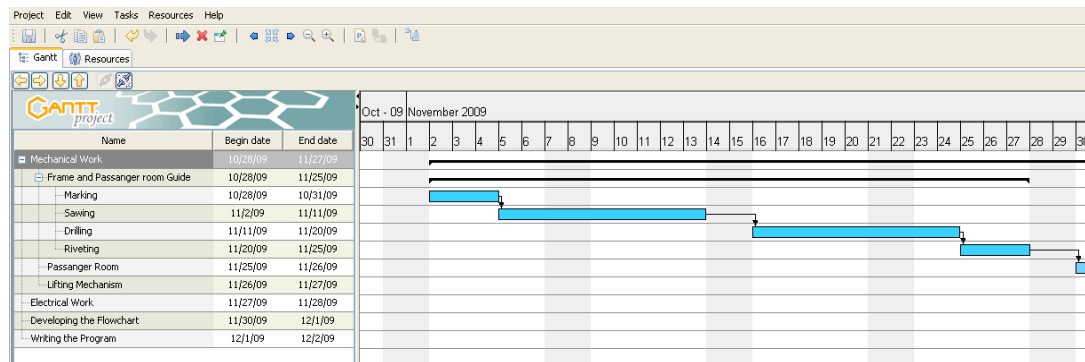

Figure 4.21: The project's new start date.
19. In the Date section, click the **Show Calendar** button next to the Begin Date box, click the first Monday following the current week, then click **OK**. Notice that the entire project moves forward to reflect the new project start date. Notice also that weekend dates in the project timeline are automatically bypassed as shown in figure 4.21.